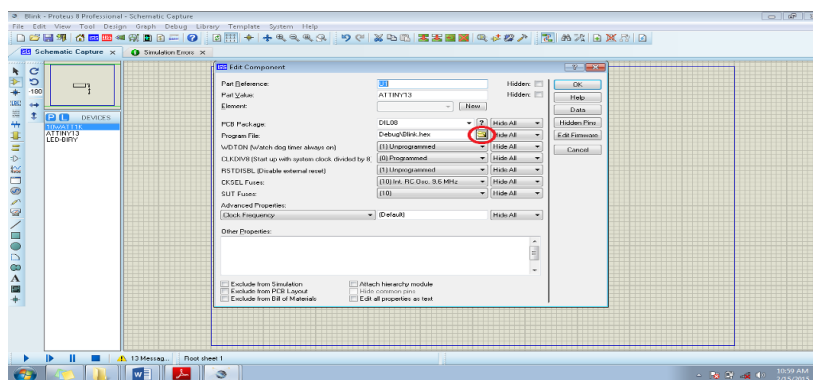

FIG 8. Specifying the hex file that will run on the microprocessor
- Right click the ATtiny13 microcontroller and select edit properties (Figure 8). The browse for the hex file created with Atmel studio. Note: The hex file is usually located in the debug folder or in the release folder depending on how you compiled your program.